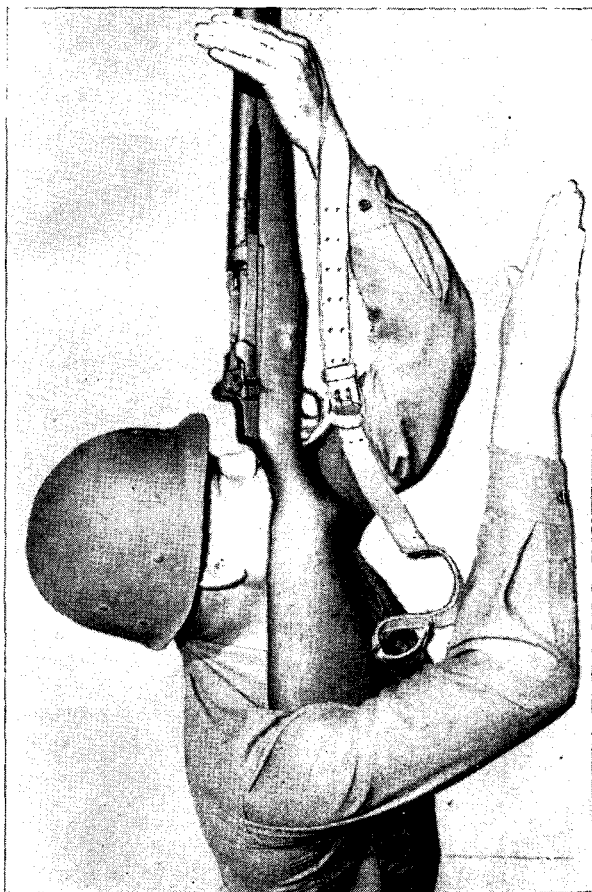

Figure 66. A correct sling adjustment holds the rifle into the shoulder.
g. Be sure the sling is doing its share of the work in giving your rifle full support. The tendency of most men is to use a sling adjustment which is too long (loose). A properly adjusted sling means a steady rifle (fig. 66).